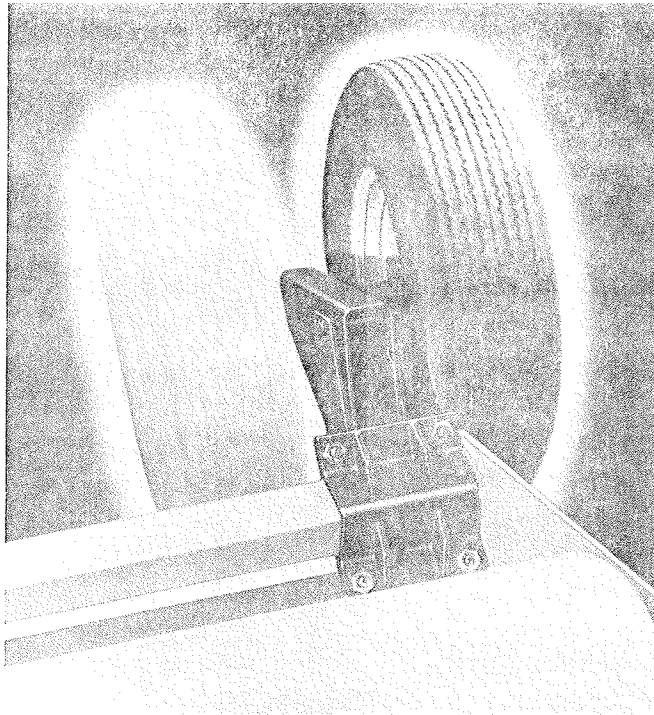

Figure 1
3. Mount tailwheel brackets on 3" square tubing. Brackets are normally installed with the wheels towards the outside of the machine, but may be reversed depending upon wheel spacing desired. Use the widest possible wheel spacing. The correct way to install the brackets is with the series of holes for wheel height adjustment, up on top. See Figure 1, page 9.